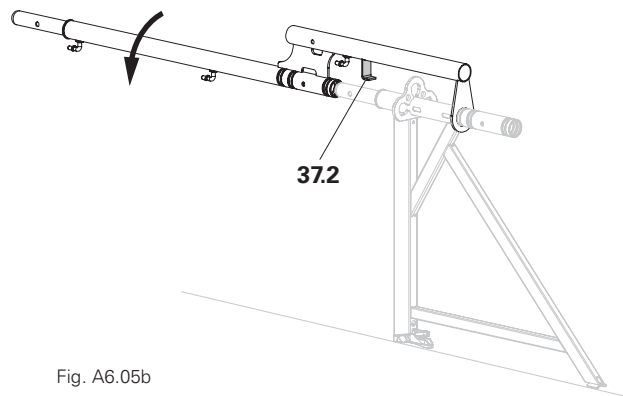
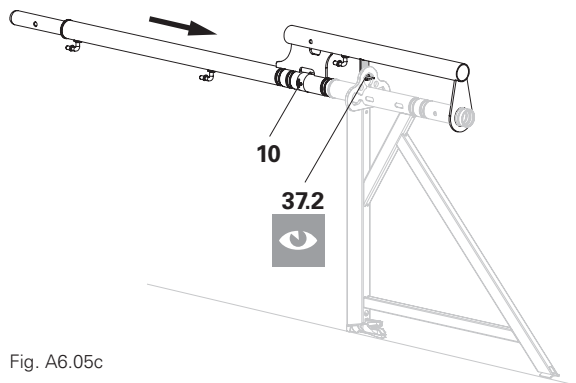

Fig. A6.05b
Fig. A6.05c
2. Push the Protection Panel Post EPS upwards on the Console Bracket ECM and push it onto the spigot of the Console Bracket ECM until the hook block (37.2) engages in the ledger-to-ledger coupler of the rosette. (Fig. A6.05b + A6.05c)
3. To extend the reach, pin the protection panel post with locking pins Ø 48/57 (10).
- The protection panel post is now pre-assembled. (Fig. A6.05c)